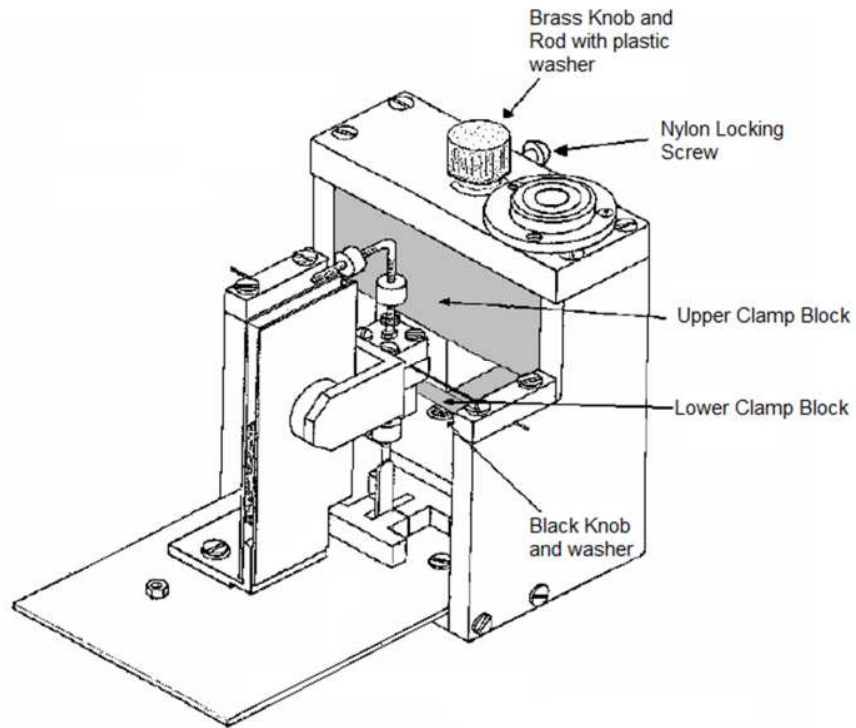

Figure 4
3. Looking inside the instrument the individual parts of the Travel clamp can be identified in Figure 4.
If the balance is to be moved the Travel Clamp components **must** be re-fitted. If the balance is to be left un-used for some time it is also wise to re-fit the Travel Clamp. The elements of the Travel Clamp are shown in Figure 4.